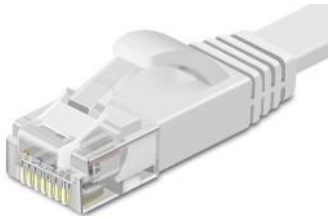

Fig. 9
1. The Titan comes with an ethernet cable(see Fig. 9).